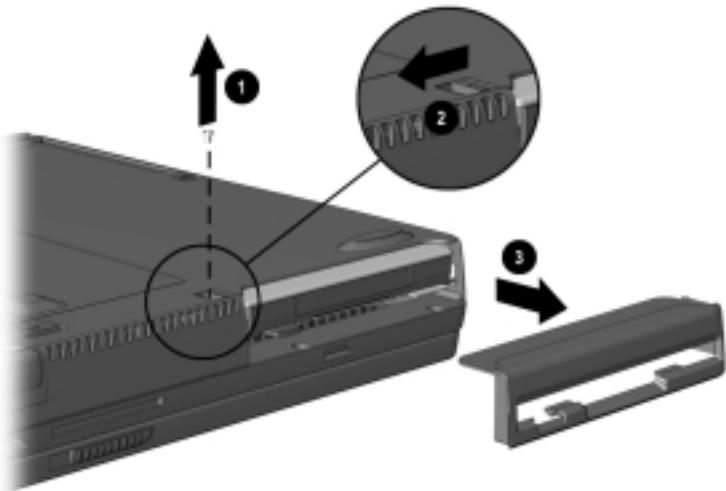

Figure 5-18. Removing the Diskette Drive Bezel
3. (**Armada V300 only**) Remove the screw ❶ that secures the diskette drive bezel to the base enclosure (Figure 5-18).
4. (**Armada V300 only**) Slide the diskette drive release latch to the left ❷.
5. (**Armada V300 only**) Remove the diskette drive bezel from the base enclosure ❸.